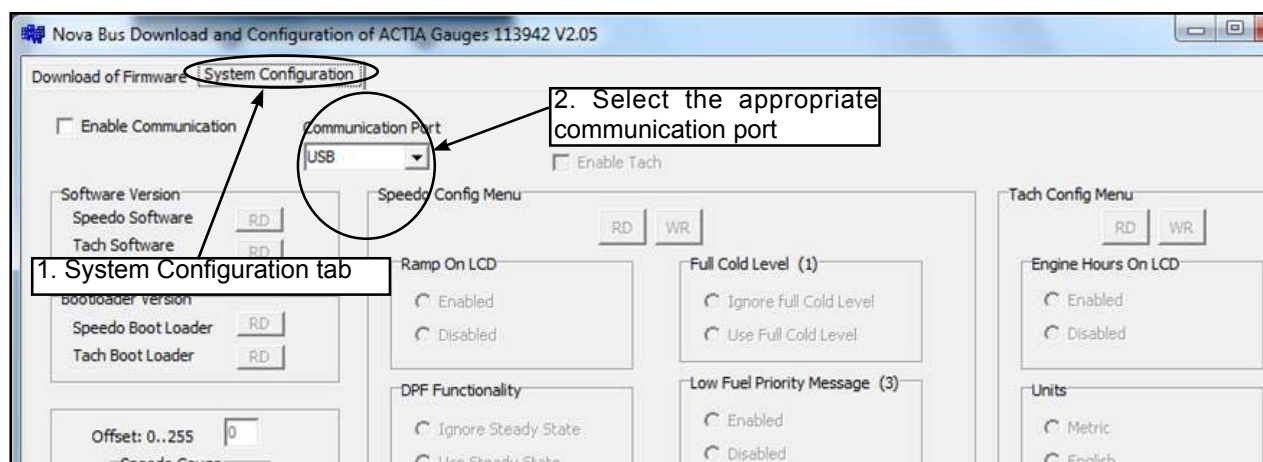

Figure 16 - Select the Appropriate Communication Port
3.1.11 In the System Configuration tab, select the appropriate communication port from the drop-down list (see Figure 16).